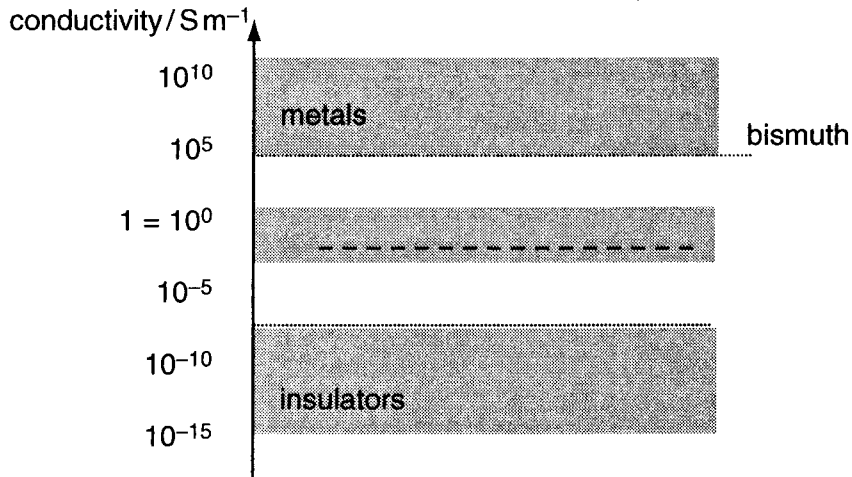

Fig. 4.1
- 4 Fig. 4.1 shows a ladder of conductivity values on a logarithmic scale, for three classes of conducting material.
- (a) Label on Fig. 4.1 on the dashed line, the third class of conducting material. [1]